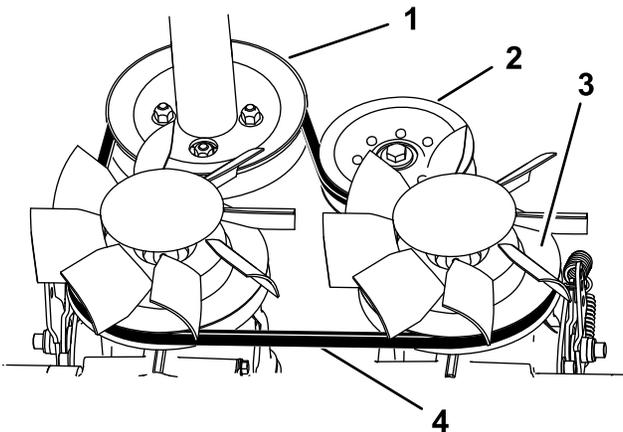

**Figure 39**
- Remove the 2 bolts, 2 nuts, and gear pump from the pump mount (Figure 39).
9. Install the gear pump (Figure 39).